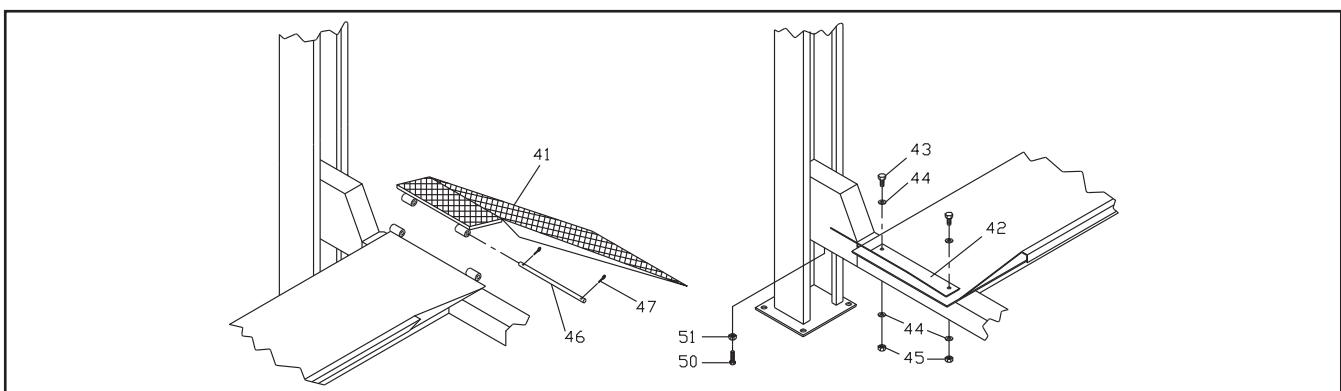

Fig.56 Securing the vehicle ramps and wheel stops
The vehicle ramps (pos.41, fig.56) and the wheel stops (42) can be fitted on either end of platforms (7 - 8) according to the user's requirements. Fit the ramps (41) by slotting them into the platforms on the required end and then fix the wheel stops (42) on the opposite end using M10 x 25 H.H. screws (43), 11 x 30 washers (44) and M10 nuts (45). If required fit the regulation screws for ground positionament (50 and 51).